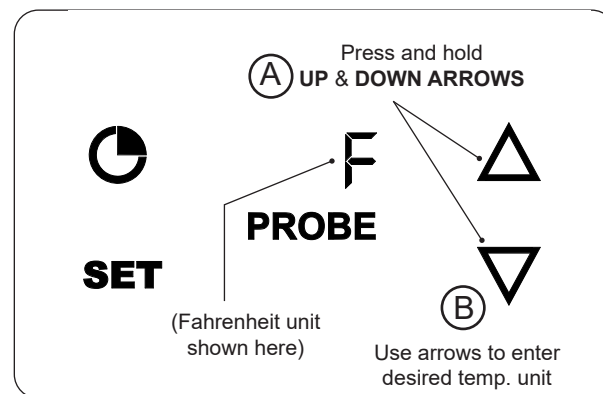

Fig. 36-4 Change temp. unit
1. Press and hold the **UP** and **DOWN** arrows until °F or °C is displayed (Fig. 36-4, A).
2. Press the **UP** or **DOWN** arrow to select the desired temp unit (Fig. 36-4, B).